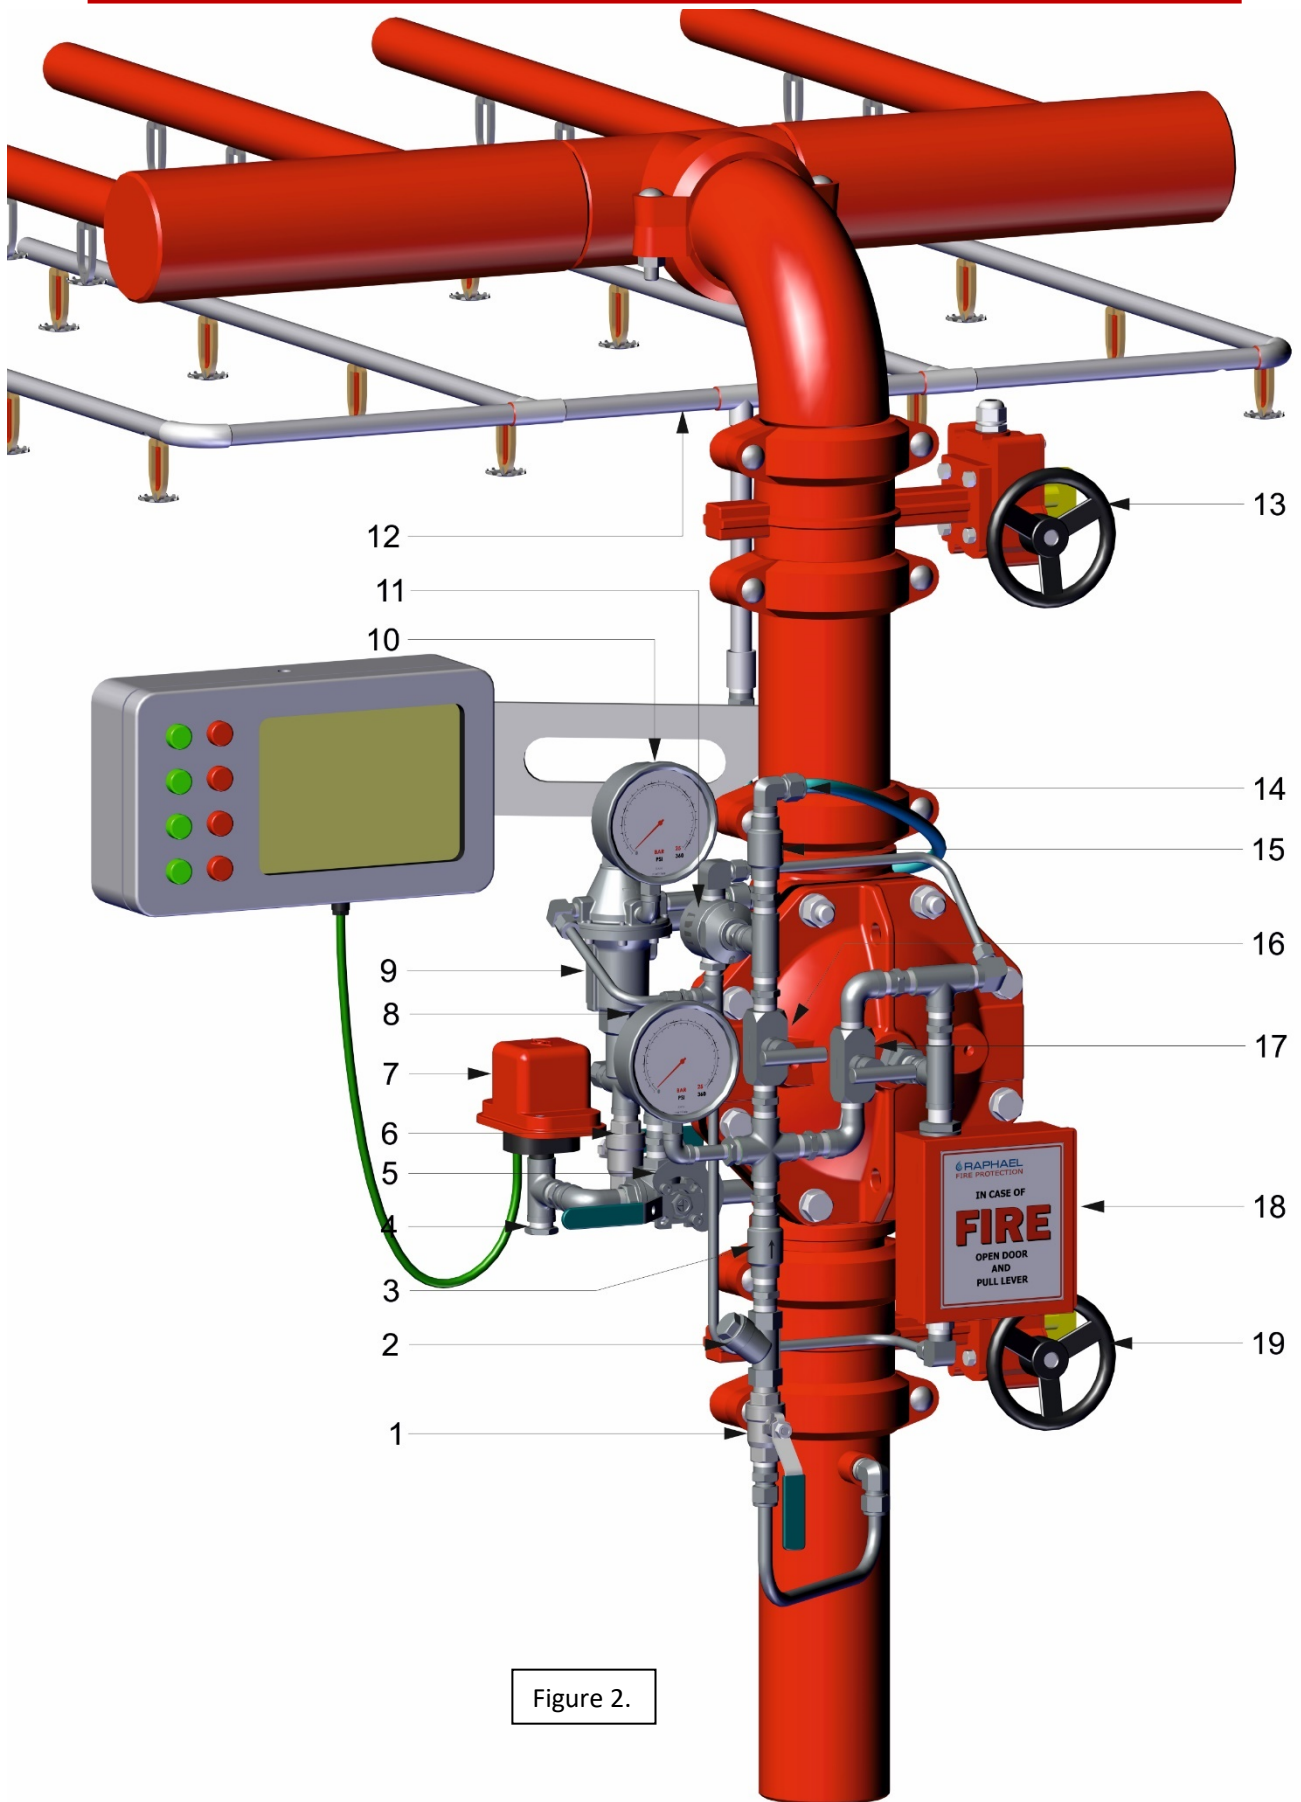

Figure 2.
Installation (Reference Figure 2)
8. All connections to water supply, should be done in accordance with figure 2
Installation parts list. (reference - figure 2)
The procedure described should be carried out after system installation completion and a comprehensive inspection. (Reference Drawing - figure 2)
Fire Situation Simulation (Reference Drawing - figure 2)
Resetting & placing in service (Reference Drawing - figure 2)